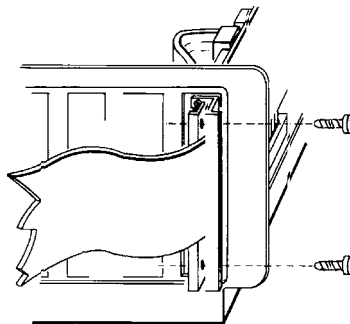
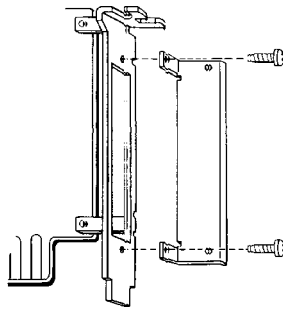

Figure 1
Figure 2
5. Attached to the Base Board is a board retaining bracket, a cable clamp, and a cable strain-relief bracket. The retaining bracket is attached to the Base Board and holds the Base Board in the computer. The cable clamp attaches to the retaining bracket. The cable strain-relief bracket attaches to the cable clamp. Cables attached to the Base Board are held securely in place by the cable clamp and the strain-relief bracket. Figure 1 shows how the Base Board cables are held by the cable clamp and the strain-relief bracket. To install the Base Board, you have to remove both the cable clamp and the strain relief bracket from the Base Board retaining bracket. Remove the two screws that secure the strain-relief bracket to the cable clamp as shown in Figure 2. Set the screws aside for use later in replacing the strain-relief bracket to the cable clamp.
6. Remove the two screws, as shown in Figure 2, that attach the cable clamp to the Base Board retaining bracket. Set the screws aside for use later in replacing the cable clamp to the retaining bracket.
9. Reattach the cable clamp to the retaining bracket as in Figure 2.
10. Reattach the strain-relief bracket to the cable clamp as shown in Figure 1. The cables should pass between the cable clamp and the strain-relief bracket. The strain-relief bracket will help to insure that stress on the cables will not bend or damage the cable connectors on the board.